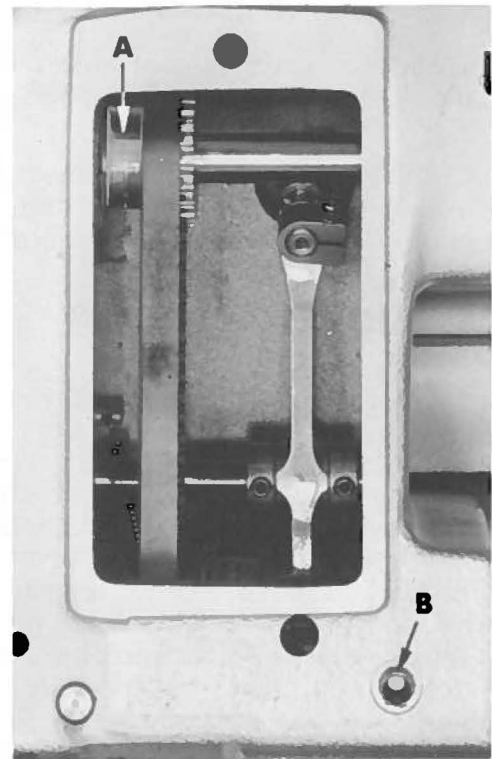

Fig. 12
The needle moving from left to right should be timed with the ridge former so that when the ridge former has reached its farthest travel to the rear, the point of the needle is over the center of the width of the ridge former. To make this adjustment, swing open arm back cover and loosen screws in sprocket (A, Fig. 12). Turn handwheel until the point of the needle is over the center of the width of ridge former. Now, while holding handwheel to keep the point of the needle over the ridge former, rotate sprocket (A) forward or backward slightly, until the ridge former has reached its farthest travel to the rear.
For average sewing, the cylinder main spring pressure is set correctly when the end of spring adjusting screw is inside end of hexagonal head nut (B, Fig. 12) 5/16 of an inch (7.94 mm) (as viewed from rear of machine). More cylinder pressure is obtained by adjusting the nut clockwise and less pressure is obtained by turning counterclockwise.